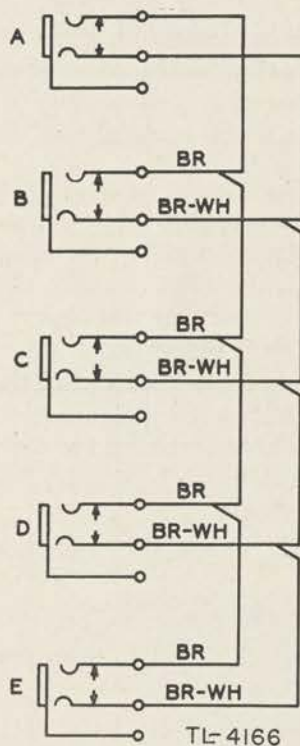

FIGURE 20.—Conference jack circuit.
**18. Conference jack circuit** (fig. 20).—*a.* This circuit consists of five jacks connected in parallel to enable the operator to connect a number of lines together for a conference. Cord circuits or patching cords may be used for connecting the various lines to the conference circuit. For limitations on use of patching cords, see paragraph *b*, following.